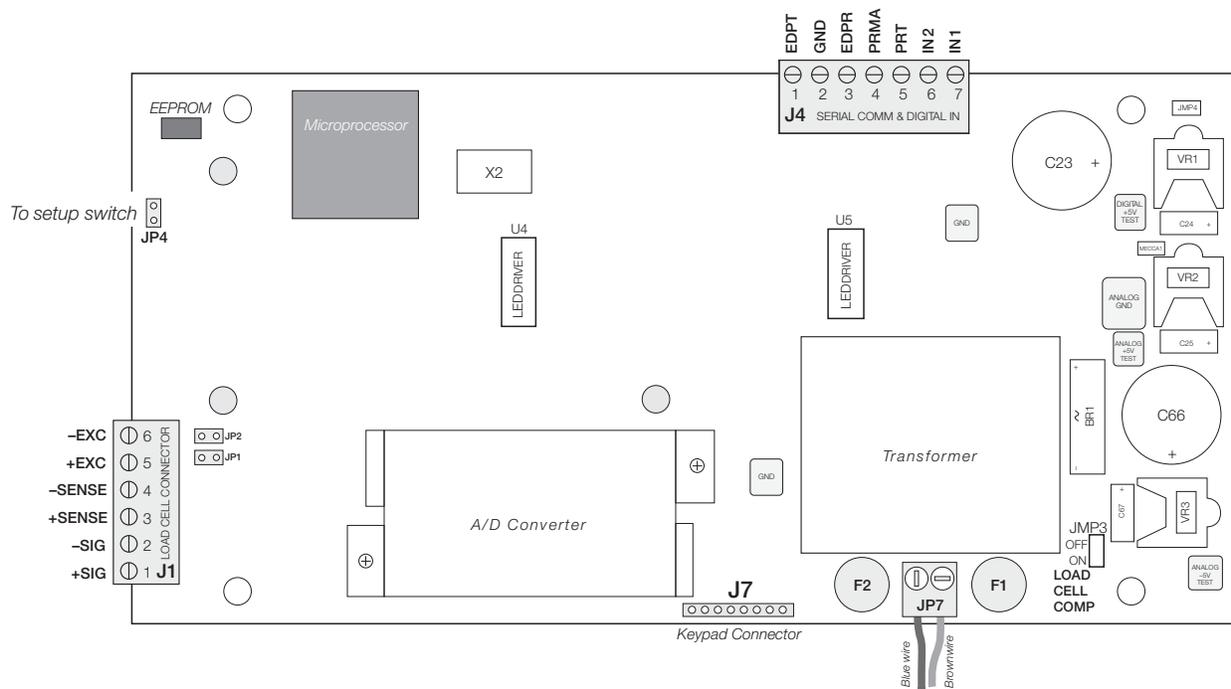

Figure 2-3. IQ plus 355 CPU and Power Supply Board
- 6-position screw terminal (PN 70599) for connector J1 and a 7-position screw terminal (PN 70600) for connector J4 (see Figure 2-3 on page 6).
Wire the load cell cable from the load cell or junction box to connector J1 as shown in Table 2-1. If using 6-wire load cell cable (with sense wires), remove jumpers JP1 and JP2 before reinstalling connector J1 (see Figure 2-3). For 4-wire installation, leave jumpers JP1 and JP2 on.
The load cell compensation jumper (above the A/D converter location on the CPU board; see Figure 2-3 on page 6) must be set ON for load cells with unbalanced bridges. The compensation jumper has the effect of lowering the positive excitation voltage. Uncompensated unbalanced load cells can cause instability or calibration errors.
Mount the analog output module on its standoffs in the location shown in Figure 2-3 on page 6 and plug the module input into connector J5 on the IQ plus 355 board. Connect output cable to the analog output module as shown in Table 2-3, then reassemble the enclosure (Section 2.5).
2. Unplug connectors J1 (load cell cable), J4 (serial communications and digital inputs), J7 (keypad ribbon cable), and JP4 (setup switch). Remove blue and brown power input wires at JP7. If an analog output board is installed, disconnect the analog output cable. See Figure 2-3 on page 6 for connector locations.